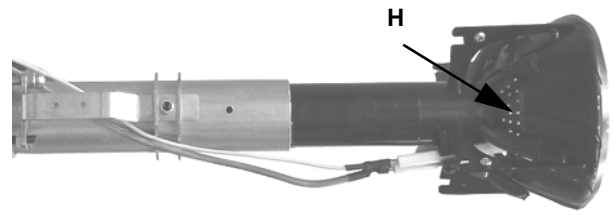

Fig. 64
- 4 Disconnect the connector **CR** (Fig. 64).
CAUTION: during the assembling phase, before tightening screws **V1**, **V2**, **V3**, **V4**, mount and tighten screws **S1** and **S2**. To remove the head, the operator must pull it towards himself. Once the combustion head is removed, check that the air and gas holes are not obstructed (Fig. 64 - **H**). Clean the combustion head by a compressed air blow or, in case of scale, scrape it off by a scratchbrush.